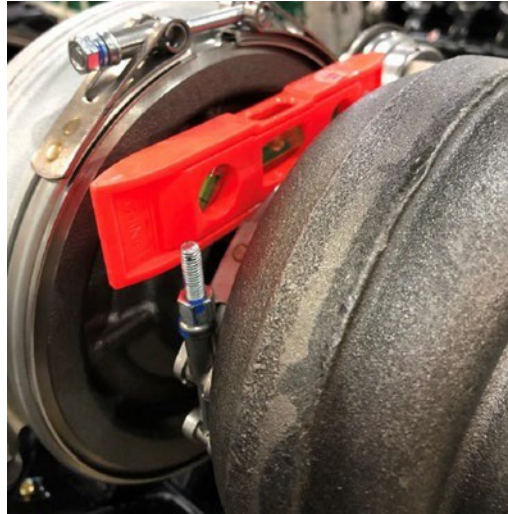

Figure 21. Oil Inlet Leveling
5. Level the oil inlet on both turbos using a level. (Refer to Figure 21).